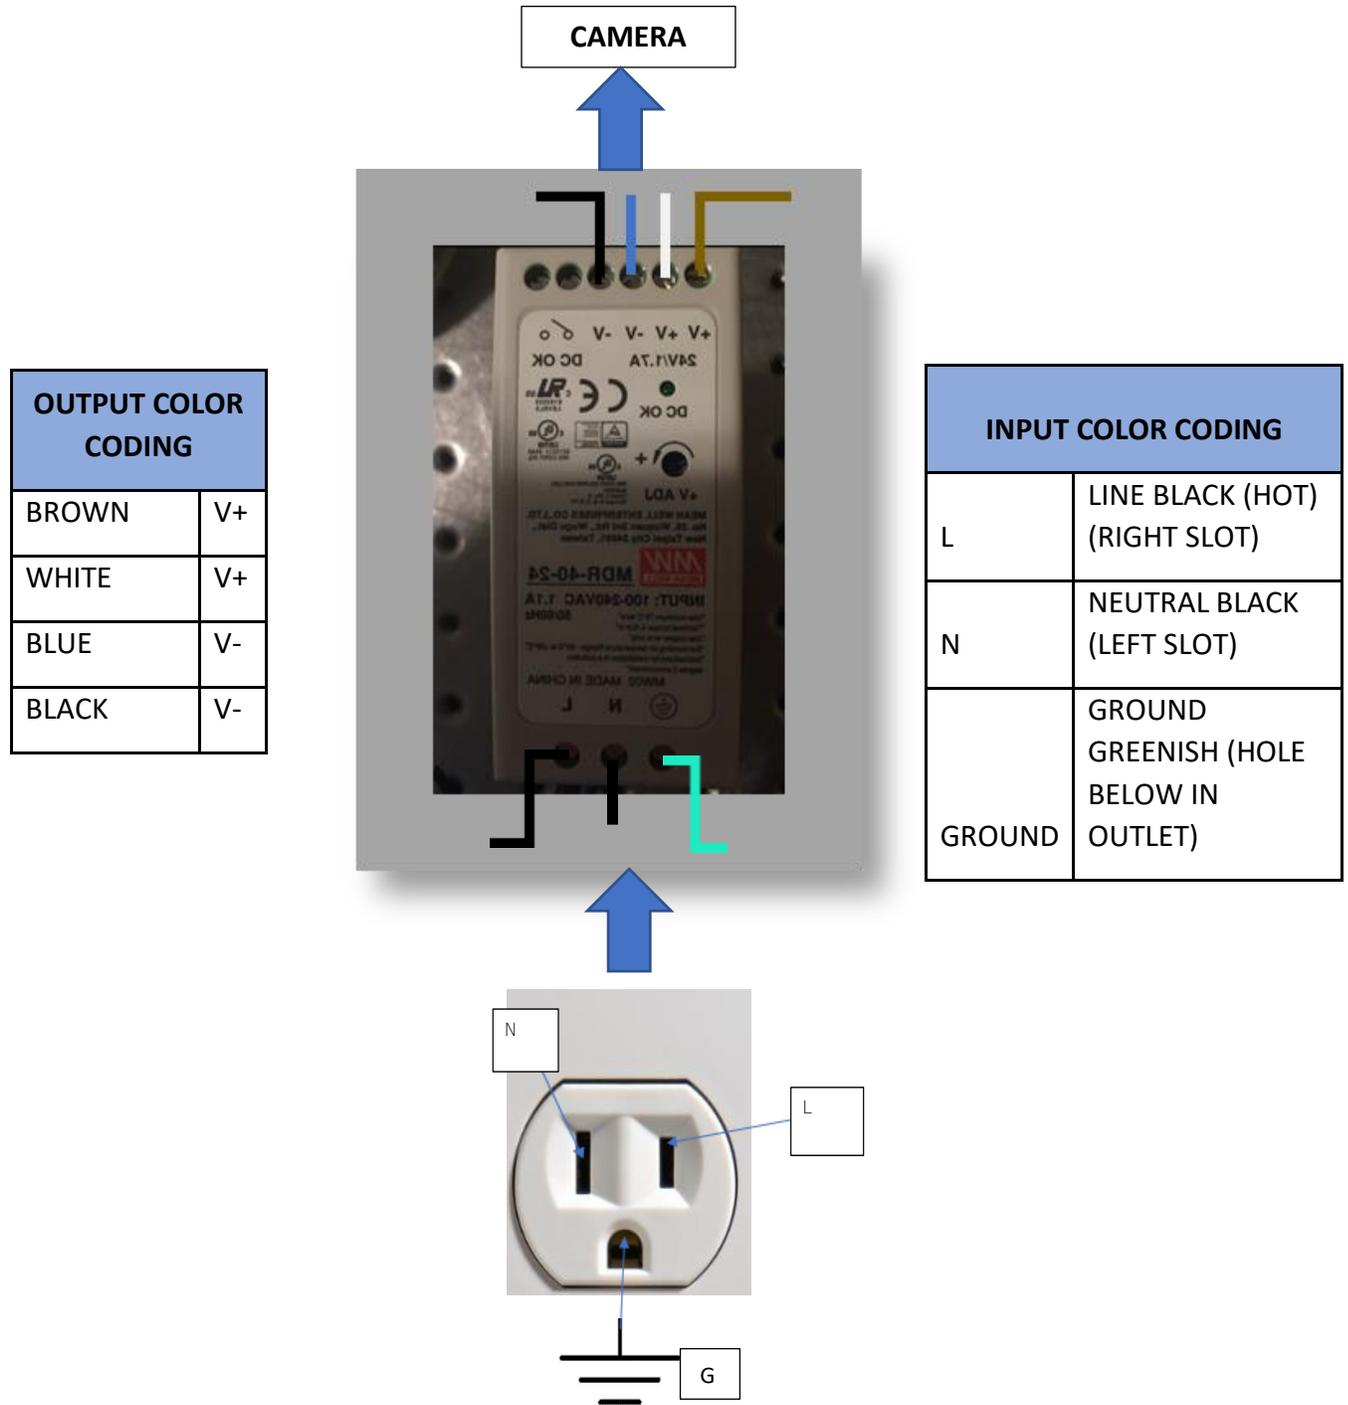

Figure 3: Electrical connection for the power line. Wire code for connection between power supply and power cable.
4. To connect the opposite end of cable 1 (i.e. Power Cable), make sure to wire it as stated on Figure 3 and 4.